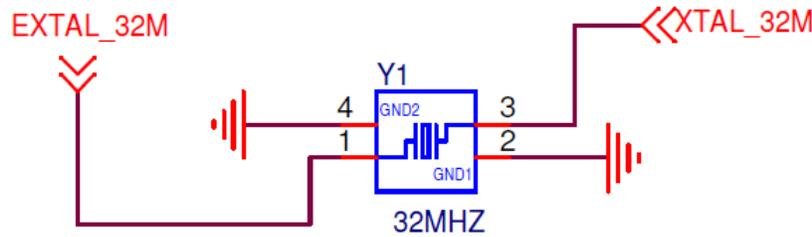

Figure 6: FRDM-KW41Z 32 MHz reference oscillator circuit.
- Figure 6 shows the 32 MHz external crystal Y1. The IEEE Std. 802.15.4 requires the frequency to be accurate to less than ± 40 ppm